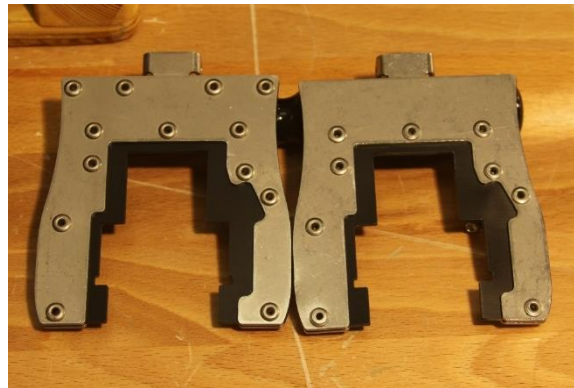

Figure 2. Second Stage Wiper Assemblies
On some early units the bottom plate of the second stage wiper was pealed back. To remedy this a row of rivets was added to the leading edge of the second stage wiper assembly beginning around serial number **O183MK**. Correct wiper assemblies have a total of thirteen (13) rivets, the previous version had nine (9) rivets. Any units that still have the wiper assembly pictured on the right in fig. 2 should be updated to the current second stage wiper assembly.